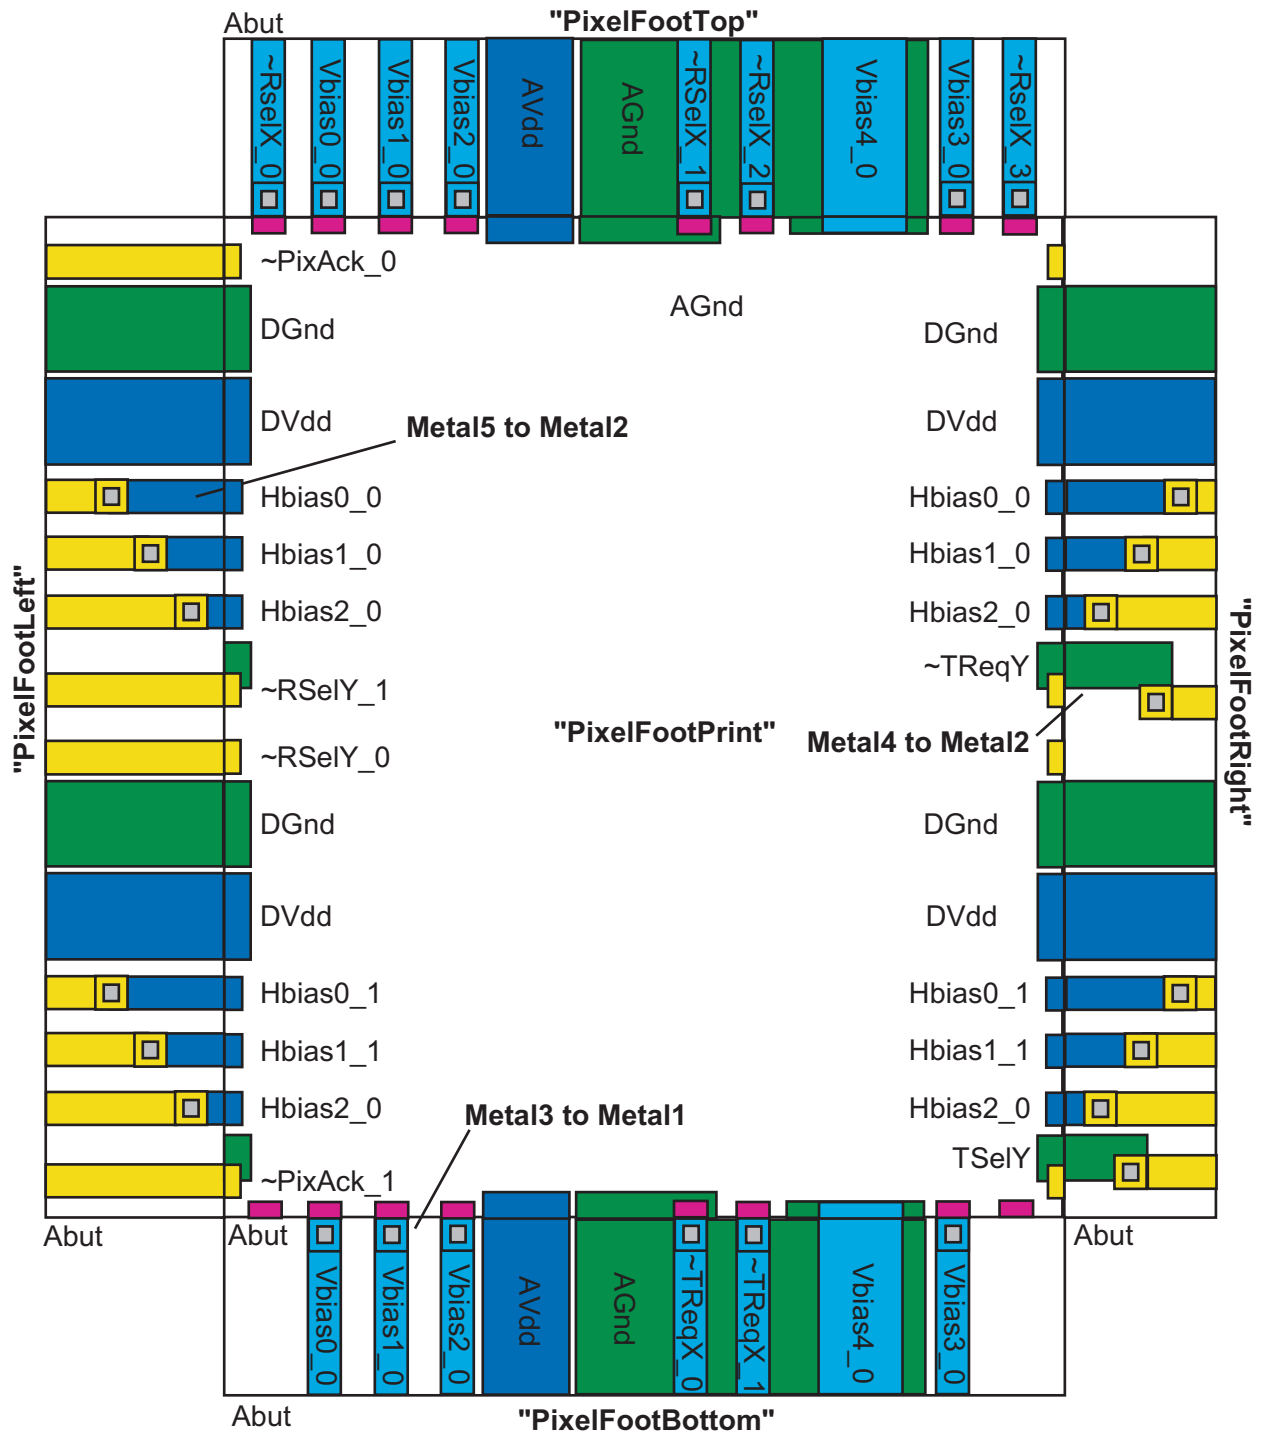

Figure 1.7: Sample PixelFootPrint Connectivity
2. From the perspective of the automatic compiler, the metapixel is a black box whose only interface are ports on the edges. The compiler looks for ports corresponding to signals identified in the "chip.txt" parameter file (Section 2.2). These signals can run on any layer in PixelFootPrint, but must be converted to Metal1 (for vertical signals) or Metal2 (for horizontal signals) in the edge cells in order for the compiler to connect them appropriately. See Figure 1.7 for an example.